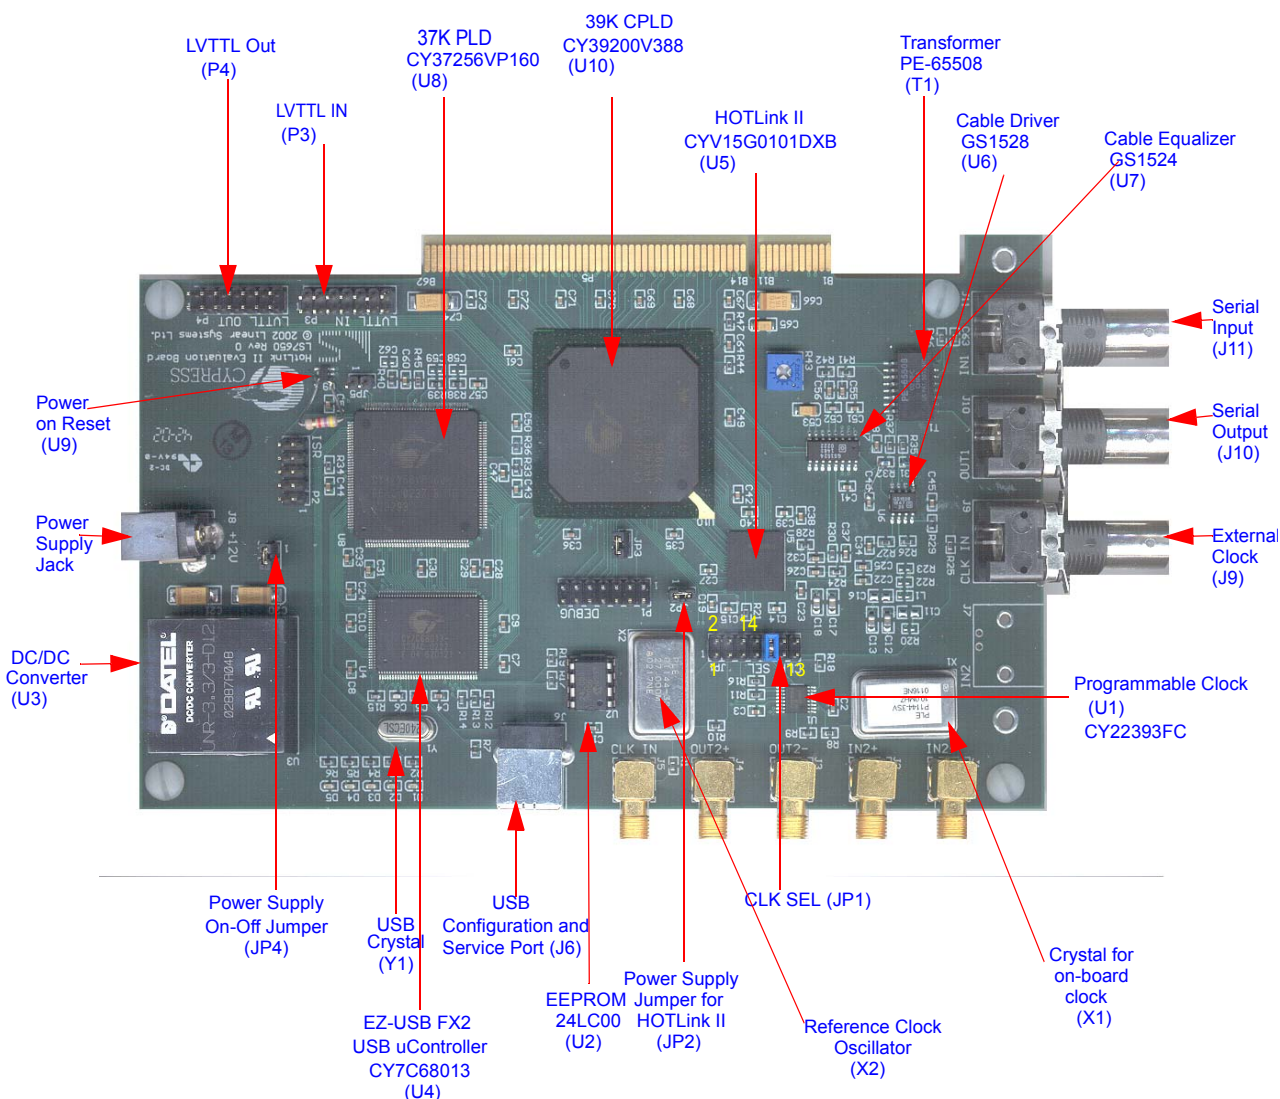

Figure 2-1. Top View of Video Board
1. HOTLink II video board, as shown in *Figure 2-1*.
(as indicated in Figure 2-1). The transmit channel of the HOTLink II transceiver accepts parallel characters into its input register and converts them to serial data, after encoding if necessary. The receive channel accepts serial data and converts it to parallel data. The input and output data are received and transmitted through BNC connectors (J11 and J10 on board) and/or SMA connectors (J1, J2, J3 and J4 on board). A power supply jumper JP2 on board (shown in Figure 2-1 and described in Table 2-1) can be used to measure the current drawn (and hence power consumed) by the HOTLink II transceiver. To do this, simply remove JP2 and place an ammeter across the pins to measure the current that is drawn by the HOTLink II transceiver alone. The data input and output BNC connectors, J11 and J10, are connected to a transformer located next to the BNC connectors.
The Delta39K CPLD (U10 on board) is used to configure the HOTLink II transceiver. The internal memory feature of the Delta39K CPLD can be used for frame buffering, which is essential to most video applications. The Delta39K CPLD can be configured as an SMPTE scrambler/descrambler via the EZ-USB FX2 USB microcontroller (CY7C68013), labelled as U4 on board, through the USB configuration and service port (J6 on board). The USB microcontroller requires a 24-MHz crystal, labelled Y1 on board. A EEPROM (24LC00), labelled U2, provides the initial configuration information to the USB microcontroller. The USB microcontroller is also used to configure the programmable clock. The Cypress programmable clock (CyClocksRT), labelled U1 on board, can provide up to six outputs, configurable from three integrated PLLs. It has a 10-MHz reference crystal labelled as X1 on board, and shown in Figure 2-1. The CyClocksRT programmable clock is serial-programmable and has configurable output buffers.